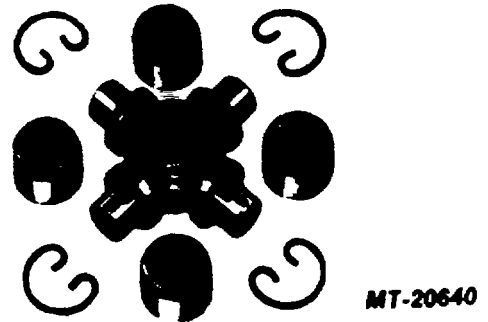

Fig. 29
4. Journal and Bearing Kit (Figs. 29 and 30) To facilitate the replacement of journals and bearings, a Journal and Bearing Kit is available. The use of the Kit insures having the correct individual parts when required and saves valuable time.